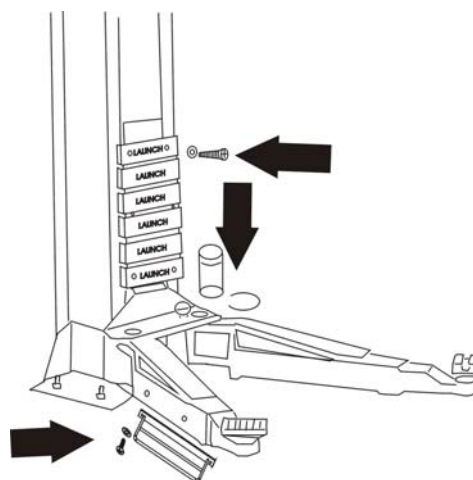

Fig. 13
- Install the swing arm as Fig.13